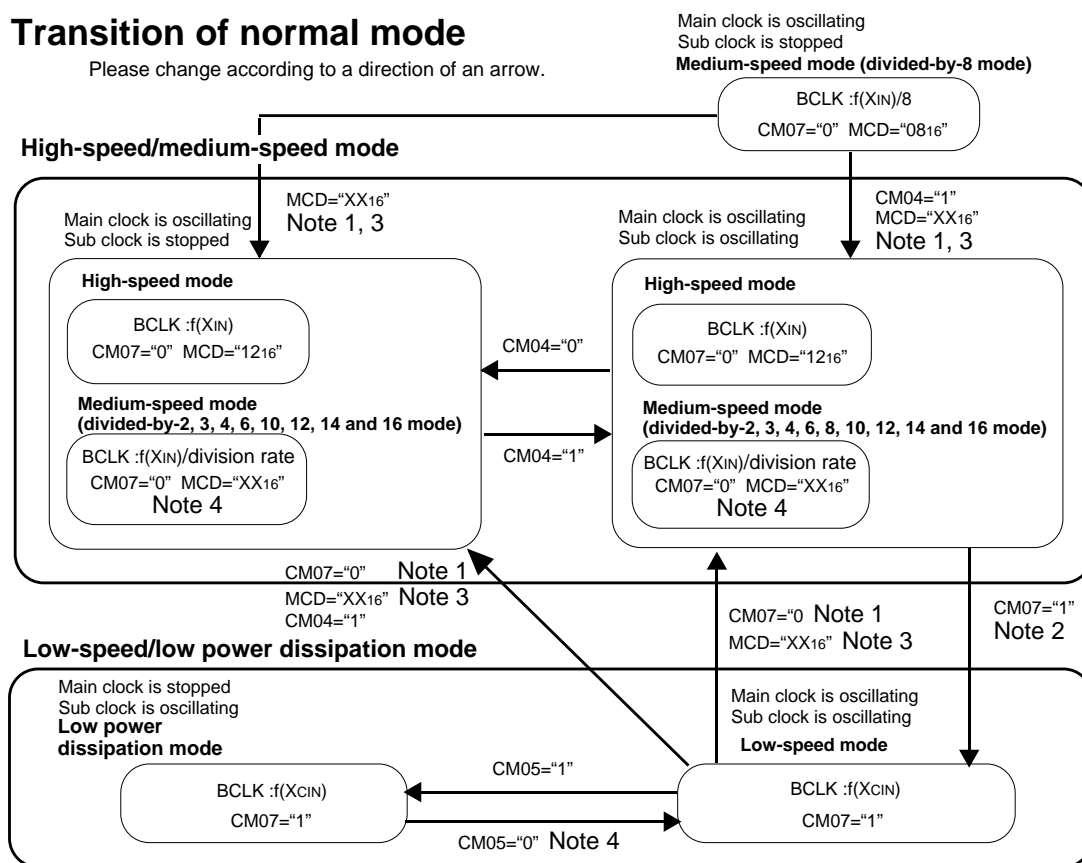

Figure 8.7 Clock transition
Figure 8.7 shows the clock transition between each of the three modes, (1), (2), and (3).